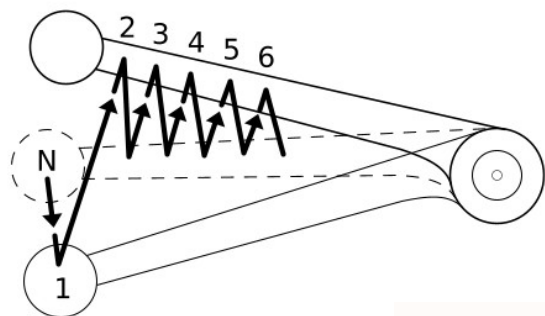

Figure 43. Shifting Sequence: Upshift
3. See Figure 43. Lift the gear shift lever up to the end of its travel and release.